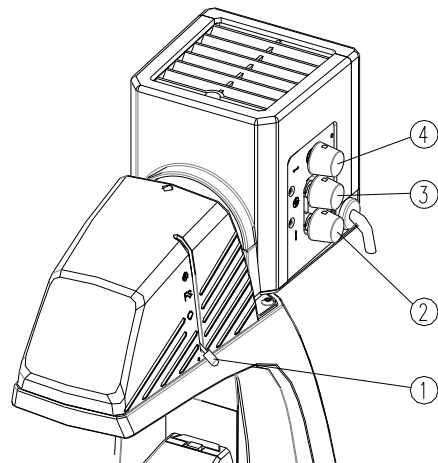

Fig.7 Adjustment of Field Diaphragm and filament
- a. Adjust field diaphragm lever ① to make diaphragm smaller until see the field. (Fig.7)
- d. Adjust lamphouse knobs ② ③ ④ (Fig.7) to make lamp filament image in the centre of aperture diaphragm, keep left right image in symmetry.